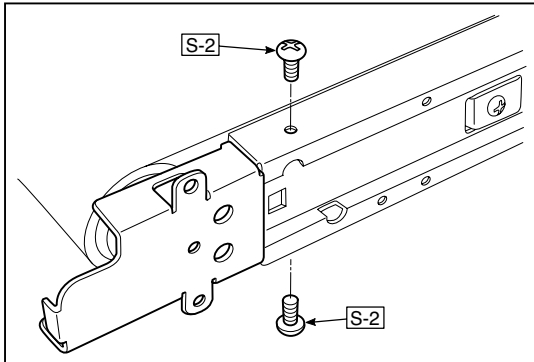

Fig.23
- 1.Remove the “S-2” screws shown in the figure 23.